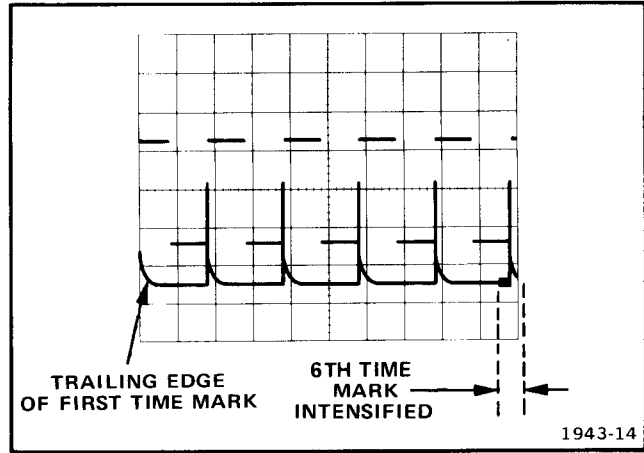

Fig. 6-19. Calibrator frequency (A Intensified display).
c. Carefully adjust A LEVEL so both calibrator and time mark waveforms are stably displayed (see Fig. 6-19).
d. ADJUST—R1501 for 1 marker per 1 cycle of calibrator waveform (see Fig. 6-19).
e. Adjust DTP to intensify sixth marker (see Fig. 6-19).